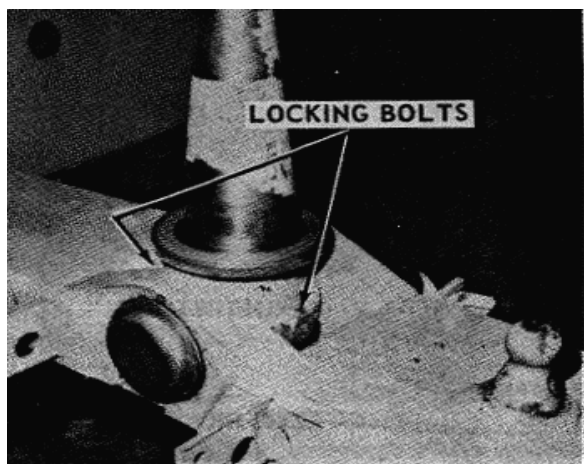

FIGURE 9-119.
d. Remove oscillation pin dust covers, cotter keys, jam nuts, and thrust washers, then remove locking bolt (see figure 9-119).